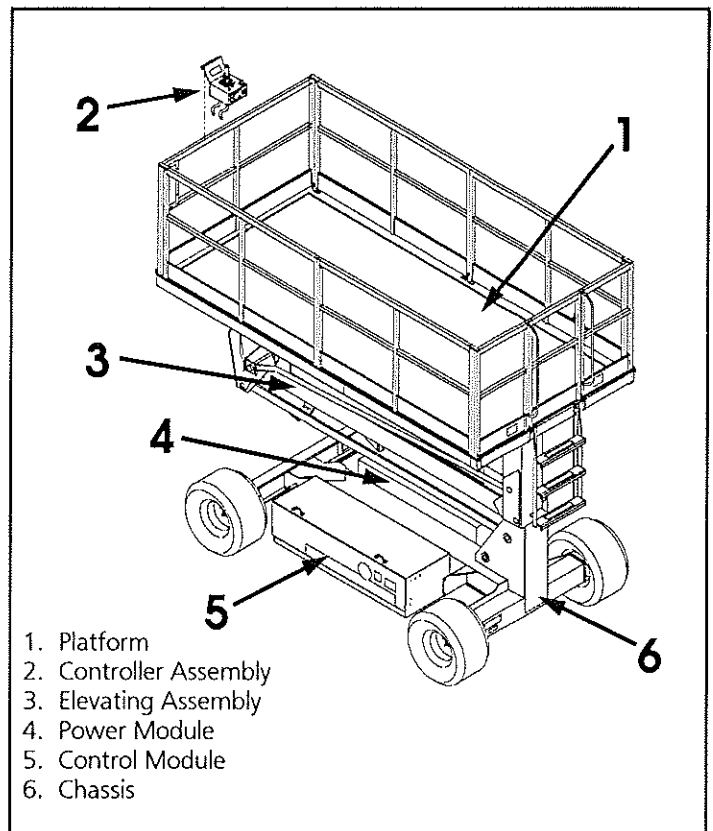

Figure 1-1: SL-26N Work Platform
1.1 General Description (Figure 1-1)